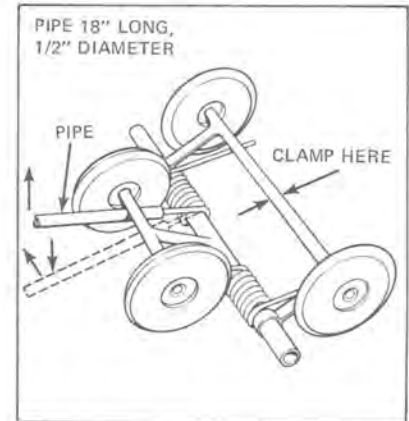

Figure 11-4
- f. For disassembly of truck assemblies see Figure 11-4.